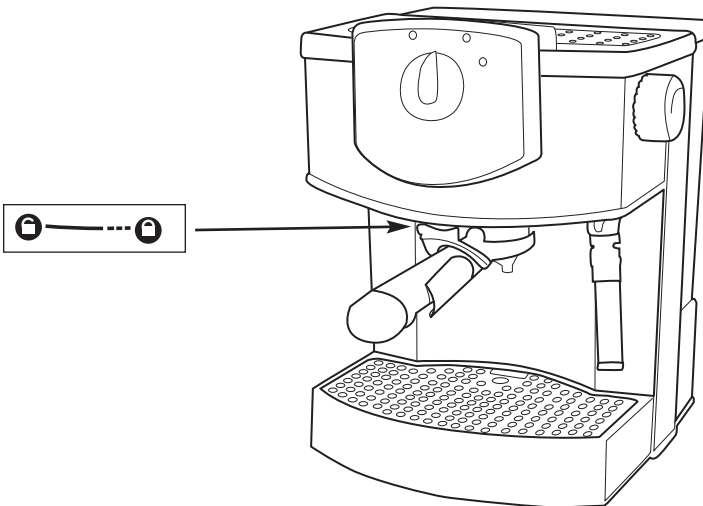

Figure 5
2. Make sure the Basket Holder Clip is folded back onto the Filter Basket Holder Handle. Push the Filter Basket Holder upwards and insert under the Spout of the machine. (See Figure 5.)